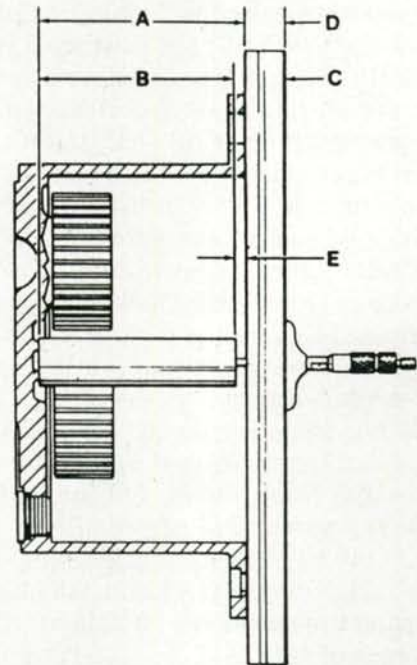
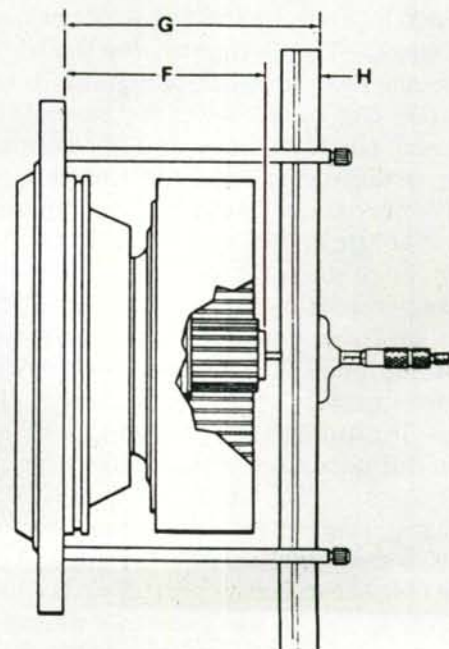

Fig. 8—View of special tools used to determine dimension (A) from mounting flange of planetary carrier to seat of thrust washer. Refer to text for procedure.
Fig. 9—View of special tools used to determine dimension (F) from flange of hub to end of sun gear shaft. Refer to text for procedure.
To adjust end play of axle shaft and sun gear, make sure thrust washer (15) is removed from carrier (10). To determine dimension (A—Fig. 8) which is the distance from thrust washer seat to mounting flange of planetary carrier, install special tool CAS-1764 on thrust washer seat. The length of this tool (dimension B) is stamped in mm on tool. Place special tool CAS-1765 across mounting flange of planetary carrier. Using a depth gage through hole in tool CAS-1765, measure distance (C) to end of tool CAS-1764. Measure diameter of tool CAS-1765 (dimension D). Subtract dimension (D) from dimension (C) to obtain dimension (E). Add dimension (E) to dimension (B) to obtain dimension (A). Record this dimension. To determine dimension (F—Fig. 9) which is the distance from the end of the sun gear shaft to the face of the mounting flange of the planetary hub, push sun gear inward as far as possible. Assemble special tool legs CAS-1763 to tool CAS-1765 and hold against mounting flange of planetary hub. The length of this special tool assembly (dimension G) is stamped in mm on the legs. Using a depth gage through hole in tool CAS-1765, measure distance (H) to end of sun gear.
Subtract dimension (H) from dimension (G) to obtain dimension (F). Then, subtract dimension (F) from dimension (A—Fig. 8) to obtain the total distance axle and sun gear is free to travel. Correct end play of axle shaft and sun gear is 0.012-0.024 inch (0.3-0.6 mm).